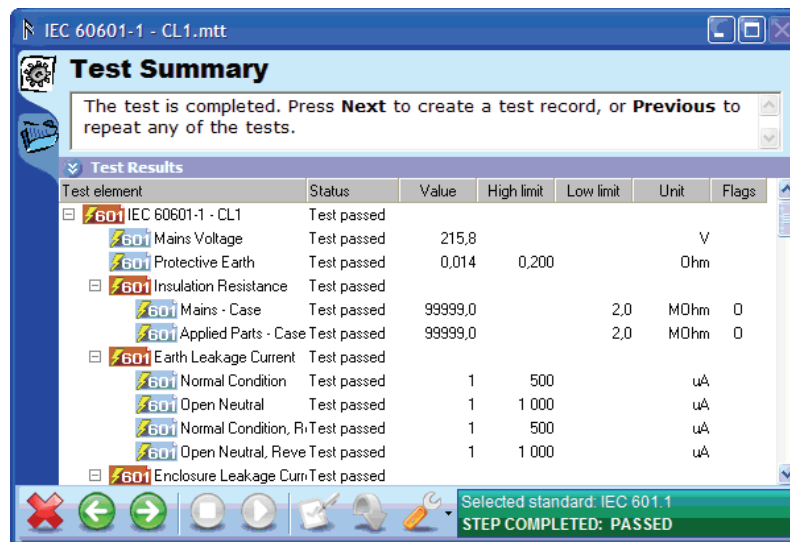

Figure 3-12. Test Summary Window
- Click the Next button (→) to open the Test Summary window as shown in Figure 3-12.